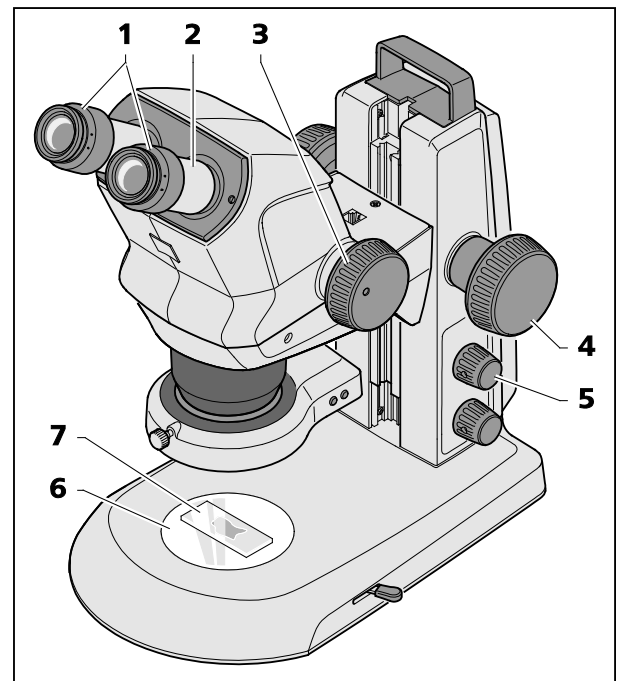

Fig. 14 Adjusting the stereo microscope
1. Place specimen (Fig. 14/7) centrally on the glass or plastic plate (Fig. 14/6) and illuminate it (Fig. 14/5).
2. Set diopter compensation on the adjustable eyepieces (Fig. 14/1) to "0".
3. Set individual eye distance by shifting the eyepiece tube laterally (Fig. 14/2), until only **one** complete light circle (specimen field) is visible when looking into the eyepieces with both eyes.
4. Initially, set the zoom (Fig. 14/3) to the smallest magnification.
5. Focus on a small distinct detail in the center of the specimen (Fig. 14/4).
6. Adjust maximum zoom value (Fig. 14/3). Magnification will probably make the distinct detail appear blurred and no longer in the image center.
7. Sharpen the specimen by focusing, then shift the specimen to re-search for the detail and focus "sharply" again (Fig. 14/4).
8. Afterwards, reset to the lowest zoom value and correct any image blurring for each eye separately by diopter compensation **on the adjustable eyepieces** (not on the focusing knob, Fig. 14/4) (compensation of visual defect).
- By pressing the knob (Fig. 14/5), the reflected-light illumination is switched ON or OFF (spot illuminator or double spot illuminator).